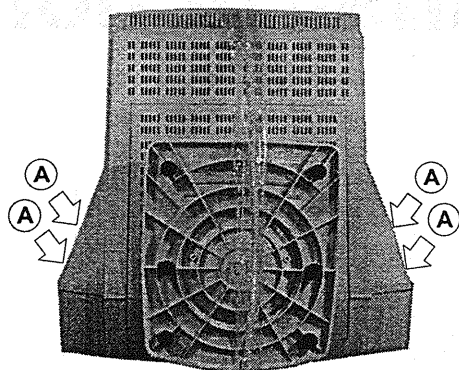

Figure 2-1 Remove the Rear Cover
1. Remove the four screws at the rear of the display. Refer to the figure 2-1 (A).